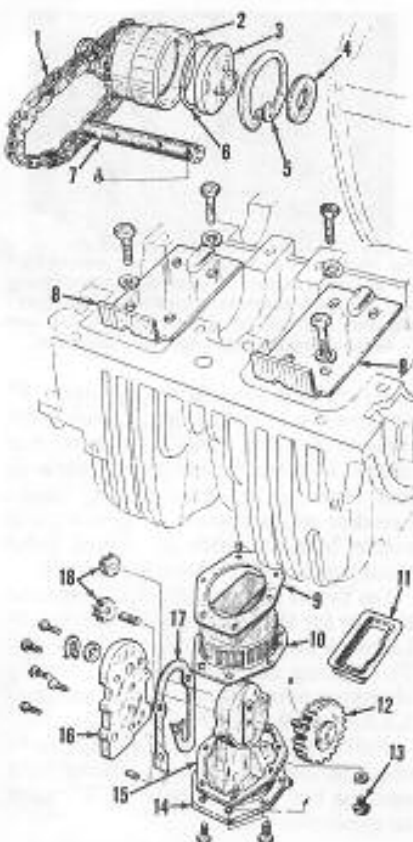

Fig. HN8-9—Exploded view of oil pump and centrifugal oil filter unit.
Engine is equipped with a gear type oil pump (Fig. HN8-9) driven by a gear (G—Fig. HN8-24) on the crankshaft assembly. Oil is filtered by a centrifugal unit that is driven by a chain and
sprocket (4) from engine crankshaft. The centrifugal oil filter can be serviced after removing cover (17—Fig. HN8-26) from clutch housing. The oil screen (10—Fig. HN8-9) can be cleaned after draining oil and removing the oil pump assembly from crankcase.